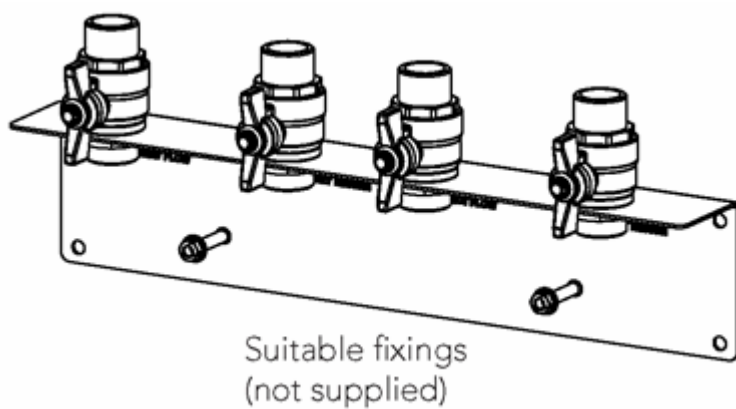

Fig 8. First fix rail mounting details
2. Slide the two studs provided on the 1st fix rail through the slotted holes in the unit back plate and secure loosely with the M6 nuts provided (Fig. 8)